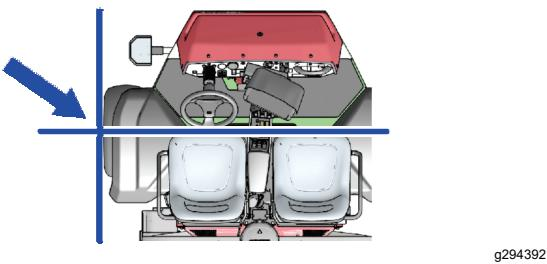

Figure 40
2. Align the outside, center part of the left front tire at the starting point of the new field boundary (Figure 40).